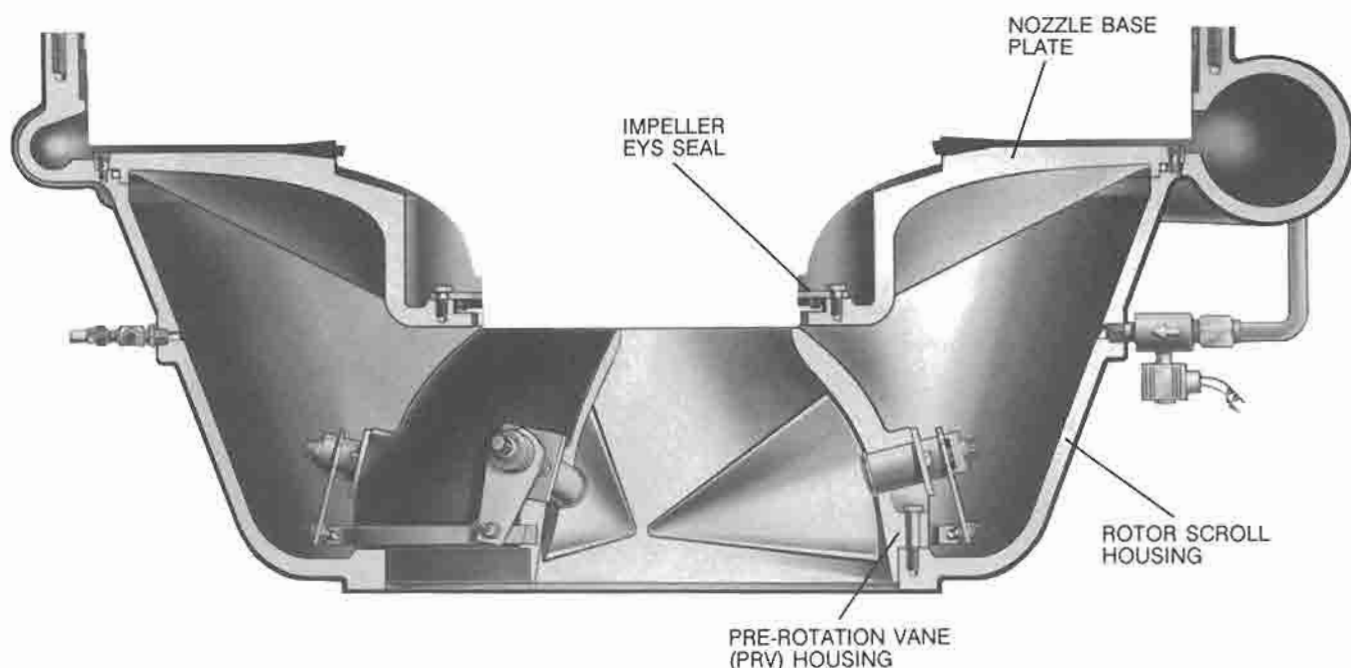

FIG. 35 – ROTOR SCROLL
- Carefully remove the rotor scroll from the unit base and rest it on the end of the suction housing. Do not lose any parts of isolators that were beneath the compressor feet. Be sure the rotor scroll is resting solidly - block if necessary. (See Fig. 35).